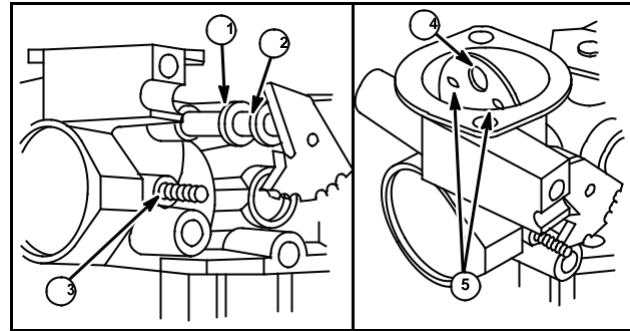

Fig. 78
1. Install choke shaft as shown in Fig. 78.